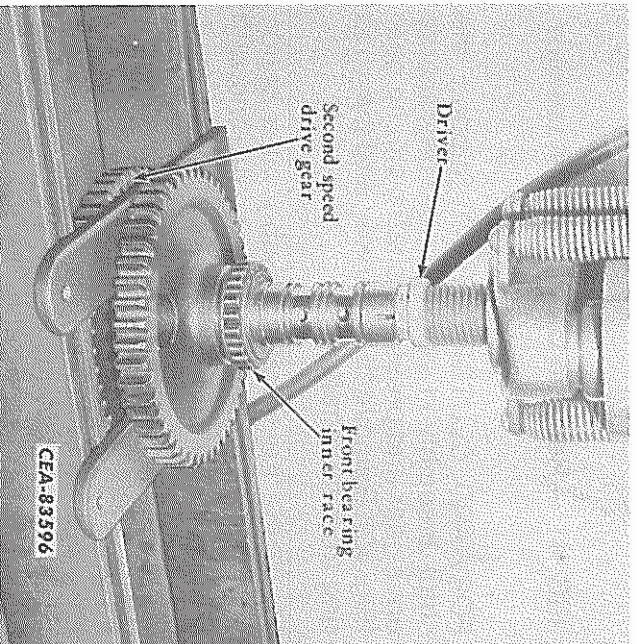

FIG. 43 — Removing the Reverse Drive Gear
31. **REVERSE CLUTCH SHAFT:** Support the shaft assembly in a press under the reverse driven gear. Remove the snap under the shaft and press the front bearing cone to the shaft and press the shaft from the bearing cone and gear (Fig. 43). Remove the gear key from the shaft.